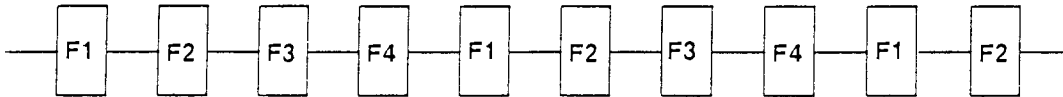

Figure 3. Frequency Agile Radar System Must Be Setup to Output a Repetitive Pattern
1. The radar system must be setup to output its signal in a repetitive pattern (See Figure 3).